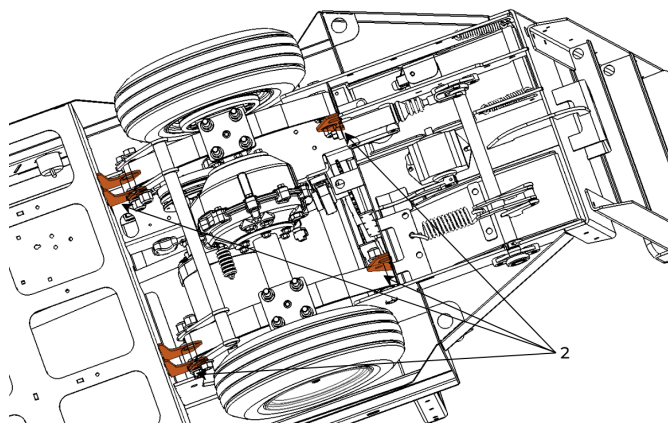

Figure 35. Rear Suspension Mounting Tabs.
- Rear suspension mounting tabs (2) (see Figure 35).